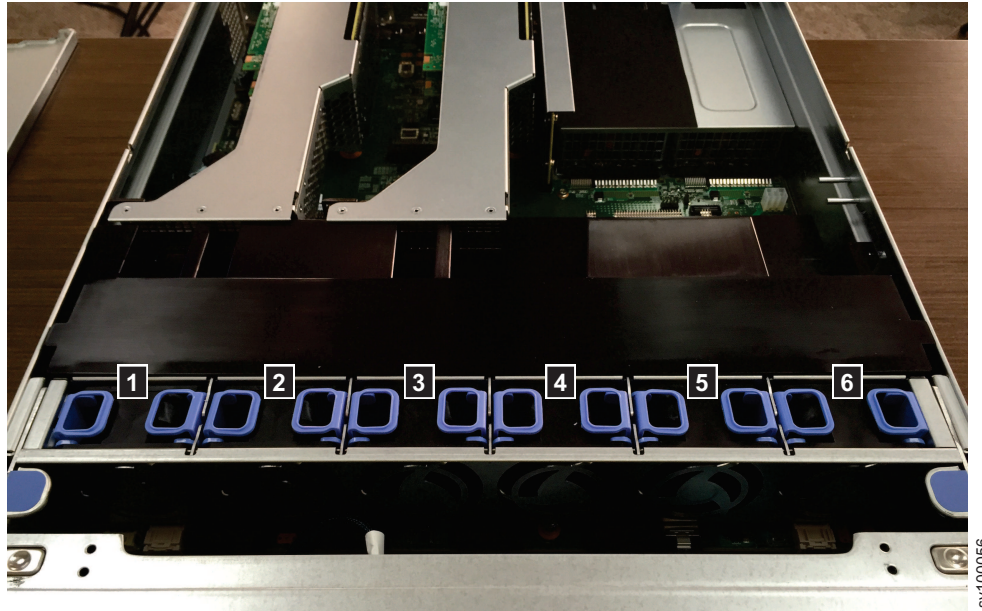

Figure 174. Locating the 2145-SV1 fans
6. Locate the appropriate fan. The node has six fan positions that are numbered from left to right, as shown in Figure 174.